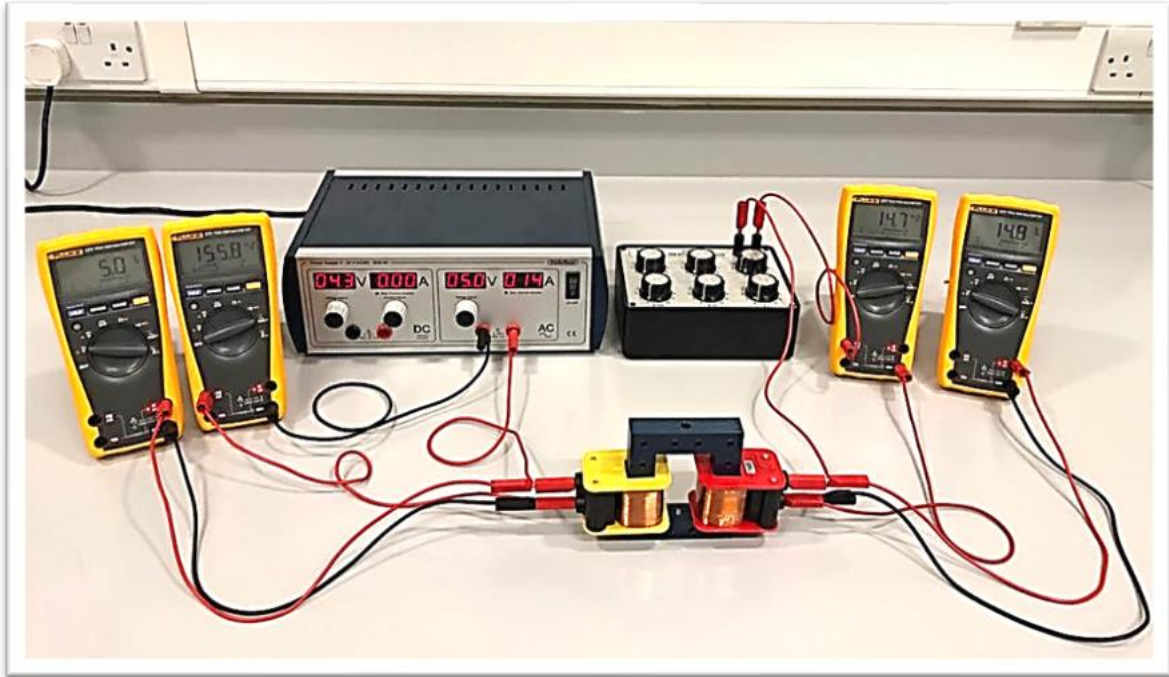

Fig. 7: Setup as in **Fig. 6** with 2 Voltmeters added: most left, to measure V_{in} , and most right to measure V_{out}
- 2- Connect 2 more multimeters to measure the voltages, as shown in **Fig.7**.